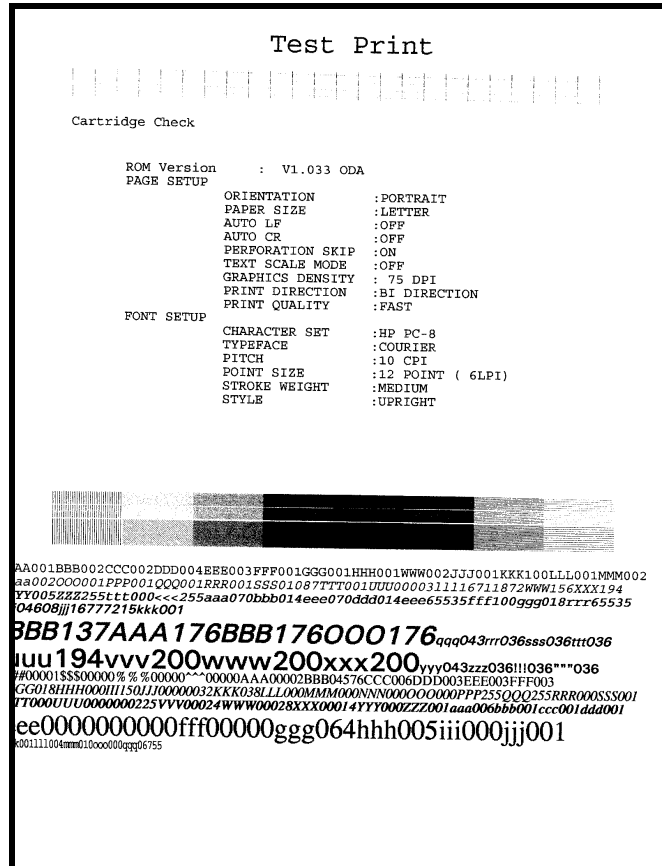

Figure 1. Test Print
- c. While pressing and holding the **Resume / FF** button, press and release the **Power On / Reset** button. The printer prints the test print shown in Figure 1. When the test print is complete, the printer initializes and returns to the Ready status.